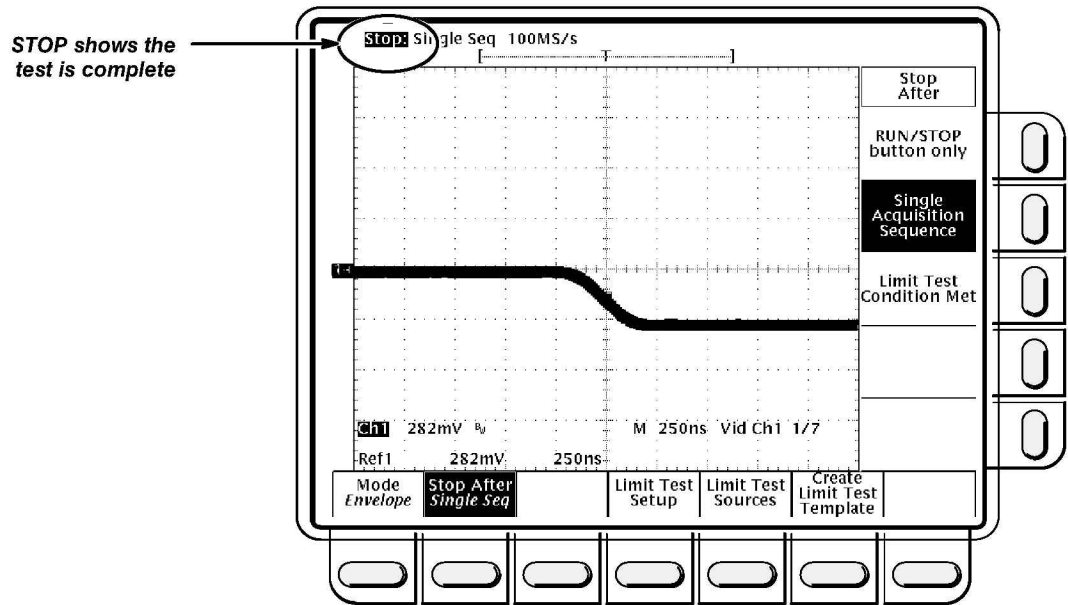

Figure 4-28: Jitter Test When Completed
- v. Confirm that the oscilloscope successfully makes 100 acquisitions. If not successful, the oscilloscope bell will ring. When the word **Run** in the top left corner of the display changes to **STOP**, the test is complete (see Figure 4-28).